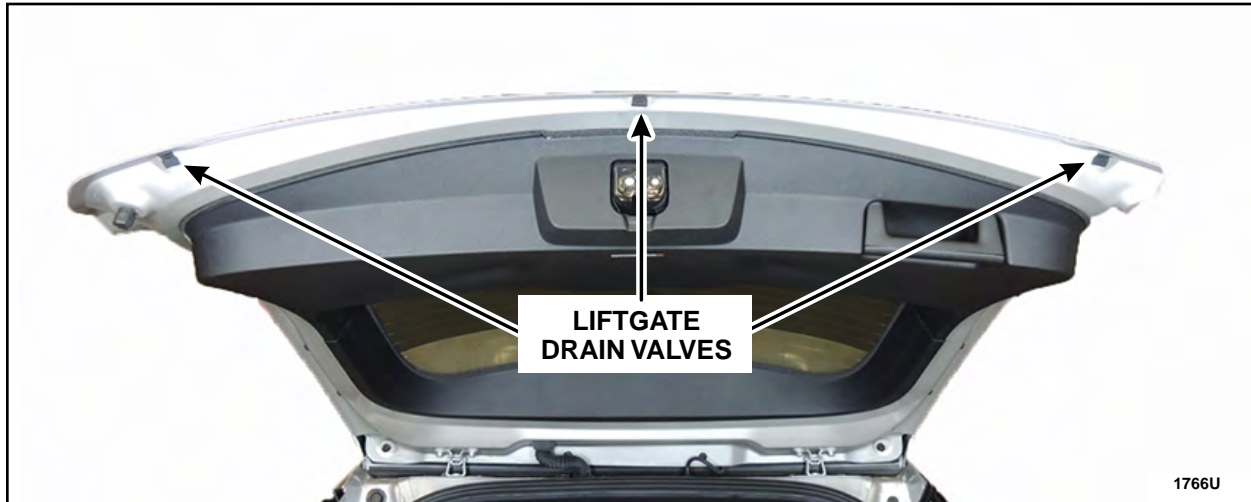

FIGURE 26
1. With the liftgate open, remove all liftgate drain valves. 2013-2015 model year vehicles are equipped with two valves, 2016-2017 model year vehicles are equipped with three valves. See Figure 26.